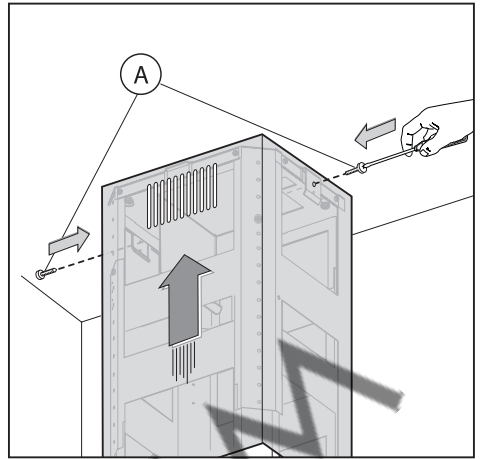

Fig.10
- Take the upper chimney piece and fix it to the structure using the 2 screws **A** (Fig.10). Join the lower chimney piece with the upper one and fix it carefully using adhesive tape **L** (Fig.11A).